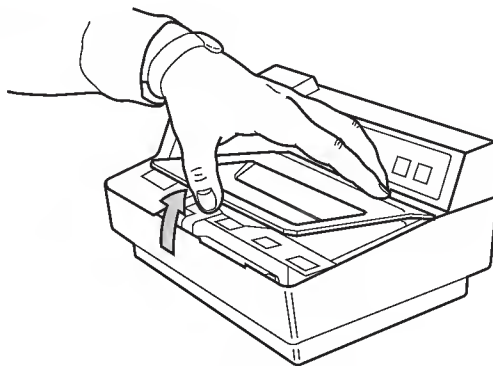

Figure 40
1. Remove the paper access cover by pulling up on the front edge. See **Figure 40**.